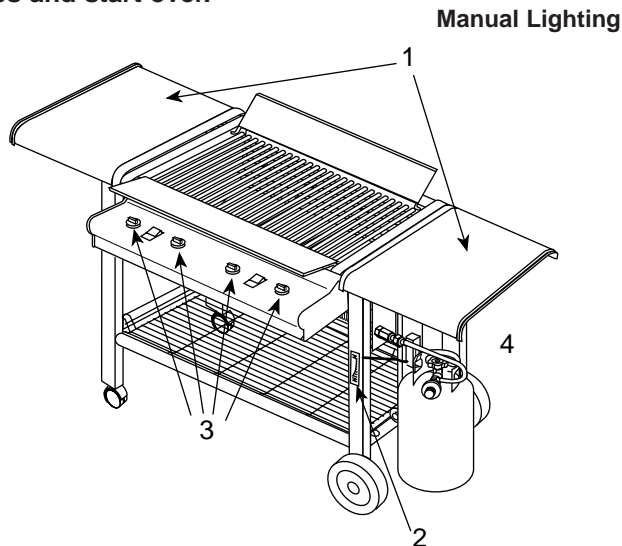

Figure 2
- 1) Open the sliding work surfaces and splash guards. Figure 2.